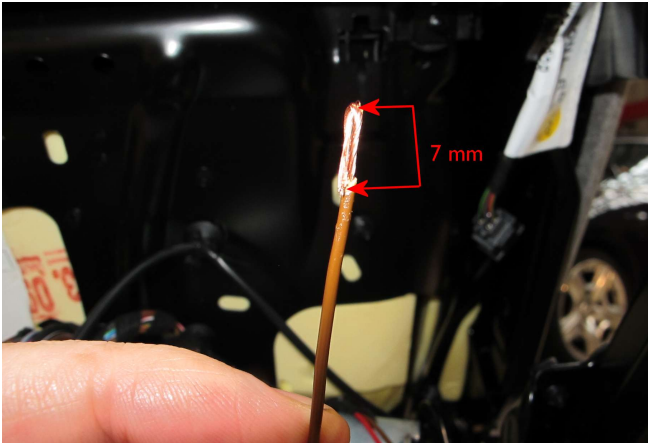

Figure 31
- Fold the conductor of all cut ends to produce a 7mm length (Figure 31)